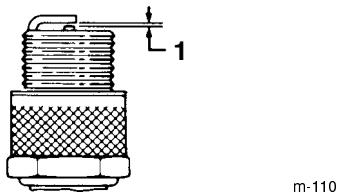

Figure 20
5. Set the gap on the plug to 0.020 in. (0.50 mm) (Fig. 20).